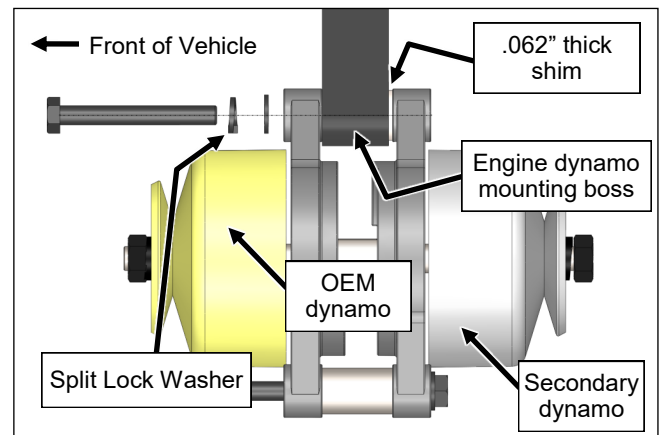

Fig. 2.6 (Install Double Dynamo onto Engine)
- 2.6 See fig. 2.6. Install the dynamo assembly onto the vehicle engine's lower dynamo mounting boss. Orient so that the OEM dynamo is towards the front of the vehicle. Install the split lock washer, then the flat washer onto the 65mm long bolt, then pass the bolt through the clearance hole in the OEM dynamo mounting ear, through the engine boss, through the .062" thick shim (this shim needs to be on the rear side of the mounting boss), and thread into the tapped hole in the Curtis dynamo ear. Leave loose at this time.